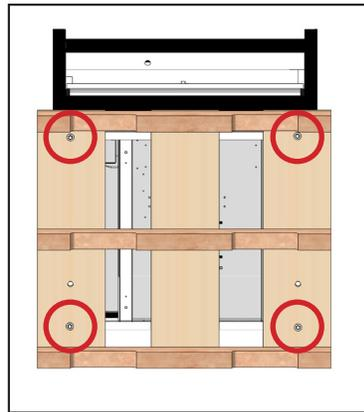

Fig. 2. Remove all shipping bolts.
2. With an adjustable wrench, remove all shipping bolts securing the wood skid to the bottom of the cabinet. See fig. 2